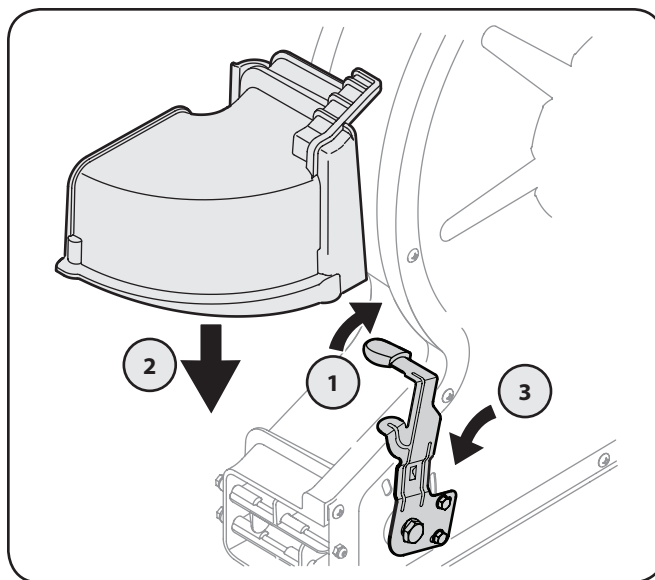

Figure 4-4
1. Pivot the blower direction lever all the way to the right (1), into the highest position. See Figure 4-4.